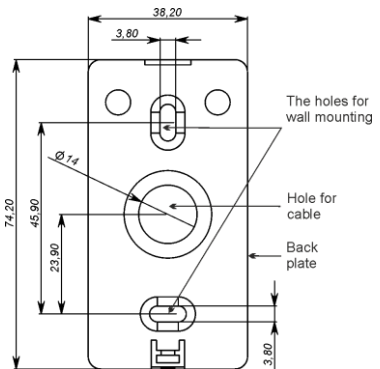

Figure 3
- Mount the back plate of reader on the wall using the fixturing provided (see fig. 3).